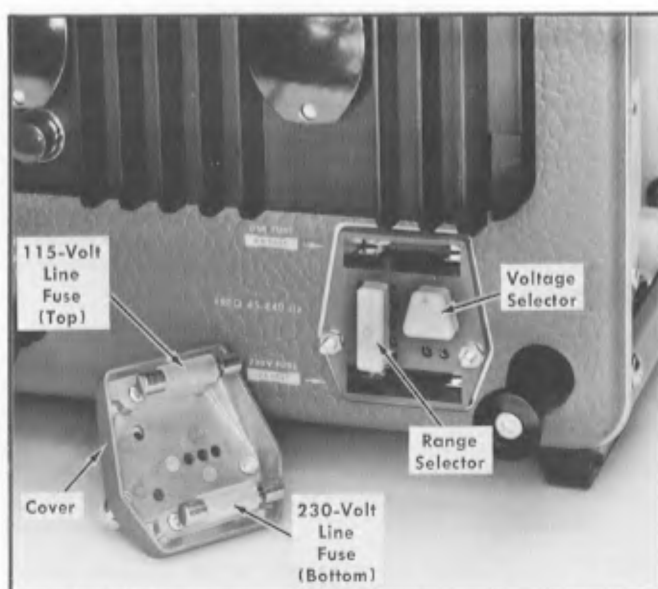

Fig. 2-1. Line Voltage Selector assembly on the rear panel (shown with cover removed).
3. To convert to a different nominal line voltage, pull out the Voltage Selector switch bar (see Fig. 2-1); turn it around and plug it back into the remaining holes. Change the line-cord power plug to match the power-source receptacle or use a 115- to 230-volt adapter.
4. To change regulating ranges, pull out the Range Selector switch bar (see Fig. 2-1); slide it to the desired position and plug it back in. Select a range which is centered about the average line voltage to which the instrument will be connected (see Table 2-1).